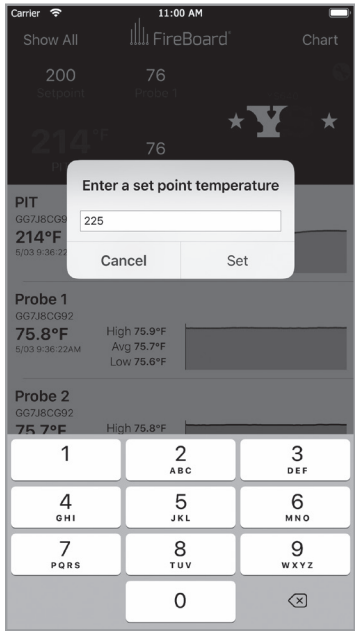

FIG 28
- You can change the pit's setpoint by tapping on the setpoint in the gray banner (FIG 28). Simply enter your new desired setpoint and tap the "Set" button. Please note that changes to the setpoint take a few seconds to take effect. Please be patient for them to be reflected in the cooker and in the app's dashboard.